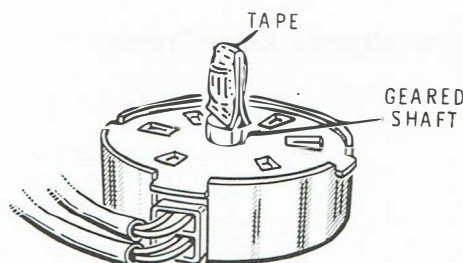

Figure E14-2
5. Using a 2 1/2" piece of transparent tape, construct an indicating flag on the geared shaft of the wrist pivot motor, as shown in Figure E14-2. This flag will enable you to observe the stepping action of the motor.